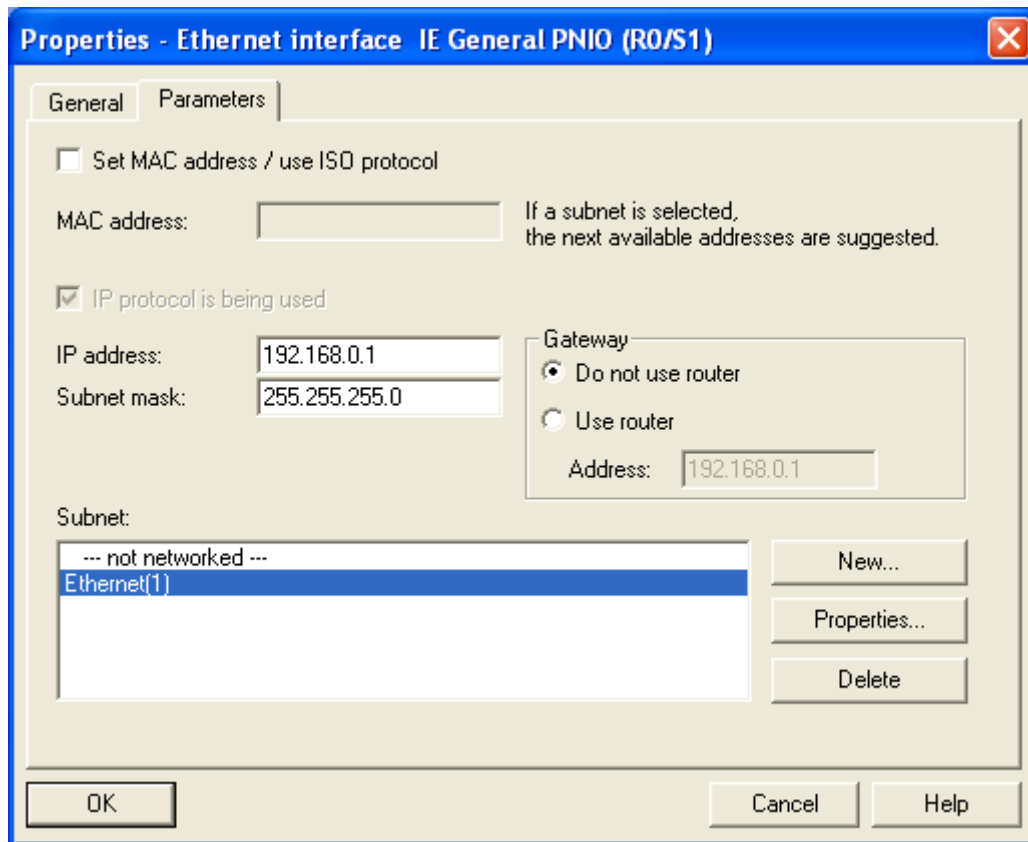

Figure 10
As final result, SIMATIC NCM PC opens a configuration dialog according to figure 10.
**Now set the IP address in the control panel according to value selected in figure 10 !**